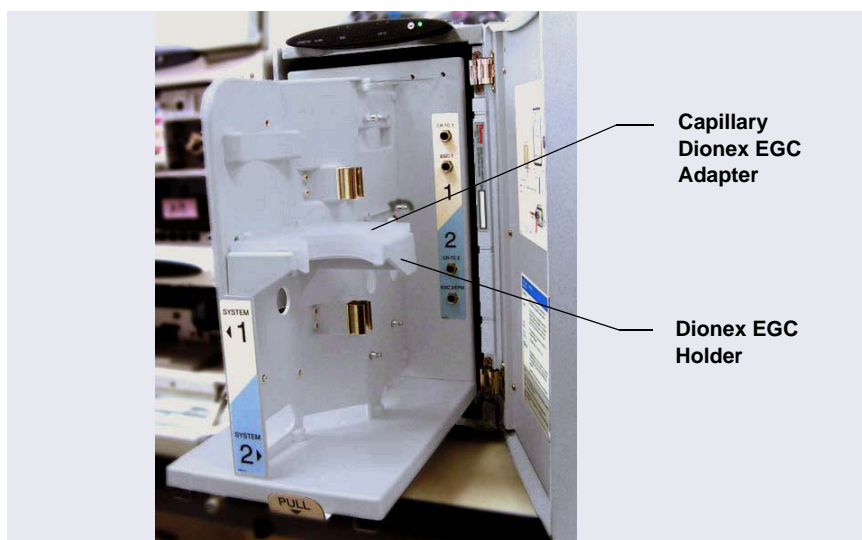

Figure 3-1. Capillary IC Dionex EGC Adapter Installed
3. If you are installing a capillary system, locate the capillary IC Dionex EGC adapter (P/N 072133) in the EG Ship Kit (P/N 072047). Install the adapter on top of the Dionex EGC holder (see Figure 3-1).